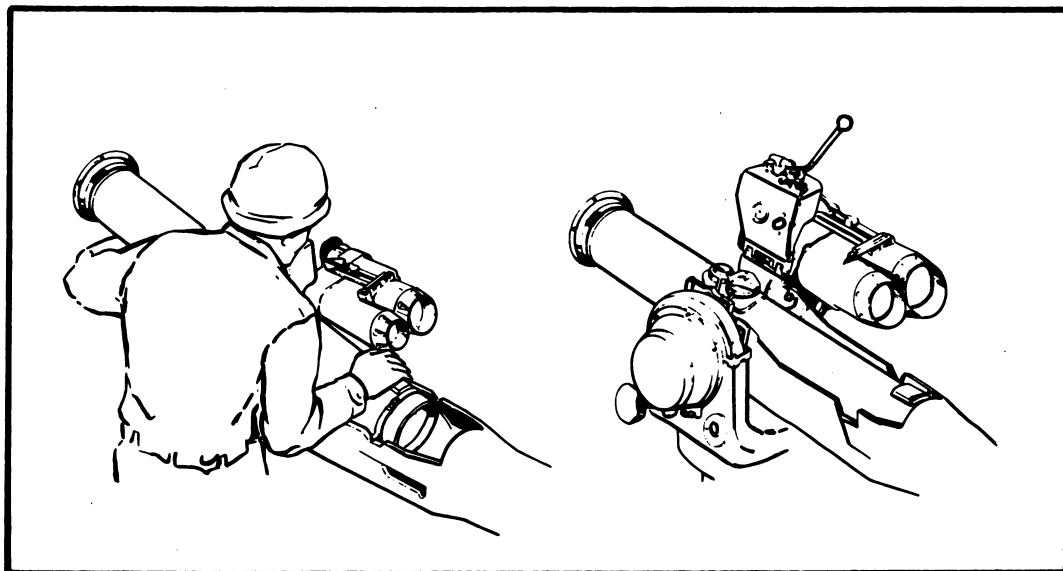

Figure 4. Seating the missile.
e. With the electrical connector facing up, hold the encased missile with the back end raised to about 45° and insert the indexing lugs into the launch tube indexing slots. Slide the encased missile forward and down until it is well seated (fig. 4).